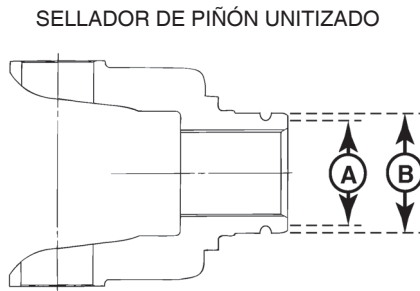

Figure 5.97
- If you find grooves on the fork, use calibrators to measure the groove diameters. If any groove diameter measures less than the dimensions shown in Figure 5.97, replace the fork.